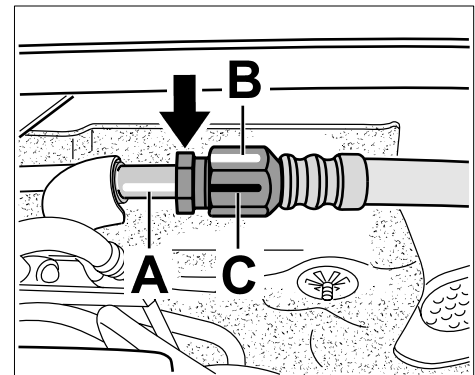

Figure 5
Figure 5 shows the position of the old marking ⇒ *Figure 5 -B-* and the new marking ⇒ *Figure 5 -C-* on the hexagon on the fitted fuel line.
4.6 Position the fuel line at the connection point in such a way that the new (black) marking on the hexagon ⇒ *Figure 5 -C-* is aligned with the marking on the connection point ⇒ *Figure 5 -A-*.
4.7 Screw on the fuel line at the connection point ⇒ *Figure 5 -arrow-* and tighten it. Counter at the hexagon on the fuel line while tightening.